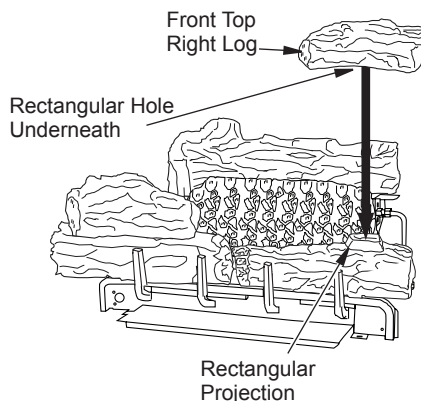

Figure 32 - Installing Top Right Front Log
6. Place top right front log onto front right log. Match the rectangular projection on top of the front right log with the rectangular hole on the bottom of the top right front log as shown in Figure 32. The top right front log will rest on top of the front right log.